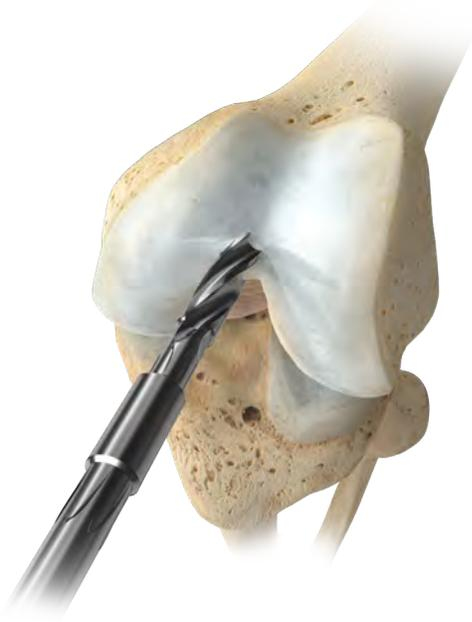

Figure 8
Utilize the .375 inch intramedullary (IM) drill to penetrate the intercondylar notch of the distal femur to a depth of approximately 1.5–2 inch (3.5–5 cm) (Figure 8).